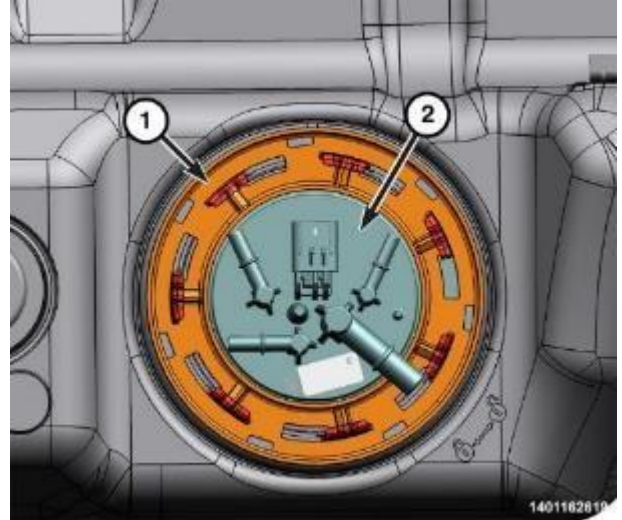

Figure 83 – Tank Connections
- 154. Position the lock ring (1) over top of the fuel pump module (2) (Figure 83).
- 155. Rotate the fuel pump module (2) until the embossed alignment arrow points to the center alignment mark or the same position as noted during removal. This step must be performed to prevent the float from contacting the side of the fuel tank (Figure 83).
- 156. Install the 9340 SAE Fuel Pump Lock Ring Wrench in the notches on the outside edge of the lock ring (1) (Figure 83).
- 158. Rotate the breaker bar clockwise until all seven notches of the lock ring (1) have engaged (Figure 83).